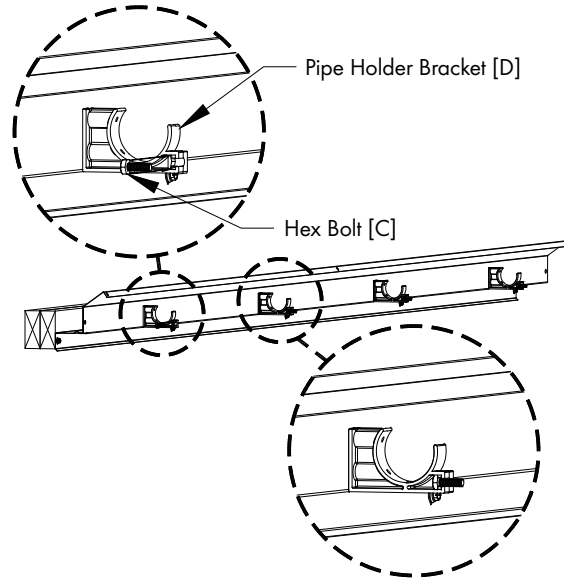

Figure 12
Insert (1) Hex Bolt [C] into each Pipe Holder Bracket down the length of the system. See Figure 12.